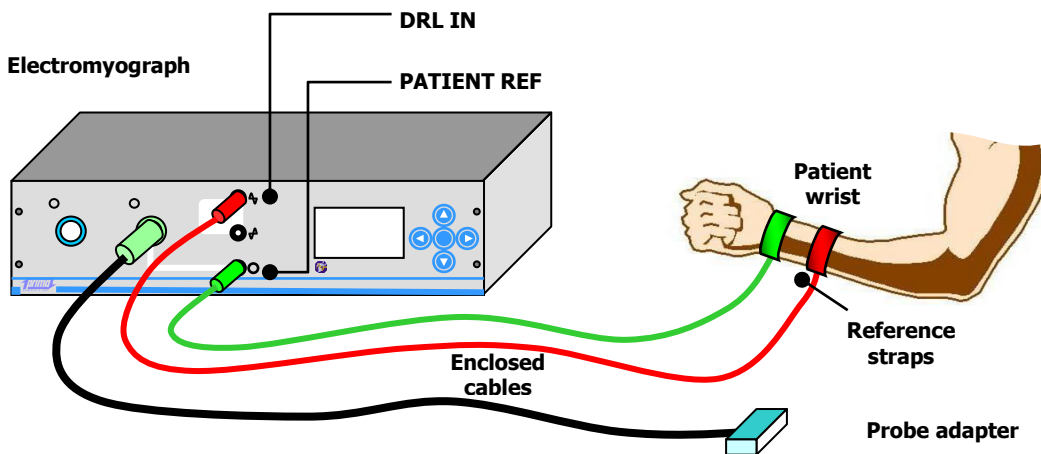

FIG. 12: Patient connection diagram for monopolar mode signal acquisitions (Mode: Monopolar). This configuration may be used also for differential detection.
- If a monopolar mode signal acquisition is planned (**Mode: Monopolar**), connect another strap to the **DRL IN** plug, using the enclosed cable. The strap has to be wet with water to assure a good electric contact with the patient and has to be connected on a point without any electromyographic activity next to the patient ground strap (e.g. the ankle or the wrist, FIG. 12).
- After verifying the good signal quality in differential mode, configure the electromyograph to work in monopolar mode (**Mode: Monopolar**) and, if not already done, connect the DRL IN reference strap (FIG. 12).